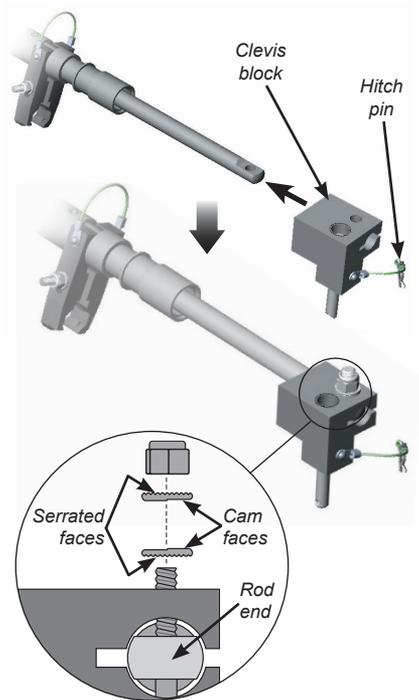

Fig B35 - Fitting the clevis block to the secondary cable rod end
- iii) Insert the cable rod end into the slotted hole in the clevis block. Ensure the clevis block is correctly oriented as shown, with the clevis pin pointing down (Fig B35).